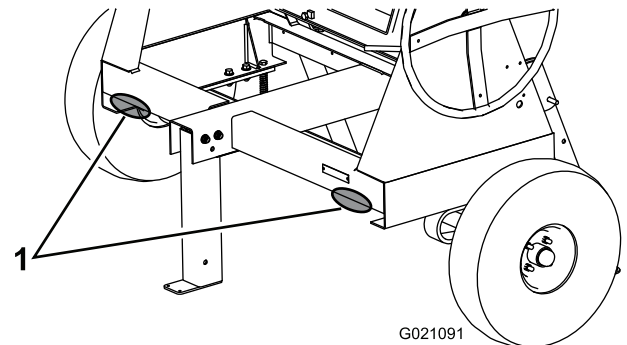

Figure 1
2. Place jack stands under the front frame rail to prevent the machine from tipping forward (Figure 1).